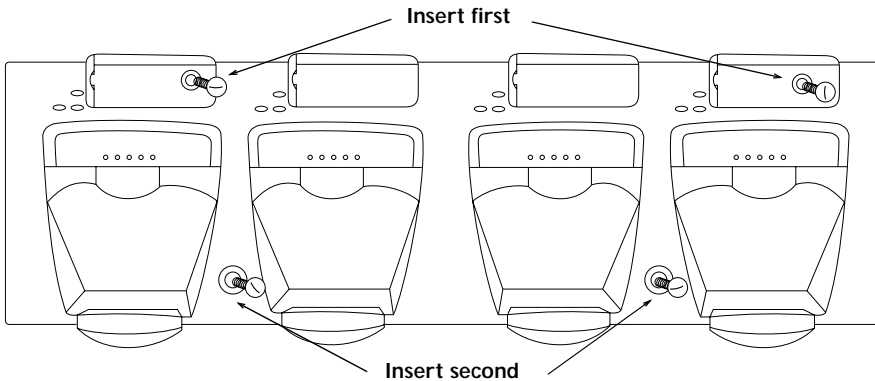

Figure 2-1. Wall Mounting the 4-Slot Cradle
2. Insert two #8 screws through the holes in the outer spare battery compartments (Figure 2-1).